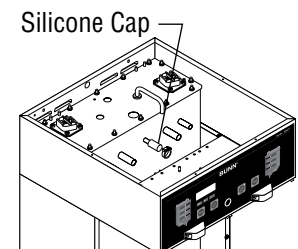

FIG 5
10. Install the silicone cap on the tank fitting and use the snap type clamp provided to clamp the cap to the fitting. (FIG. 5)